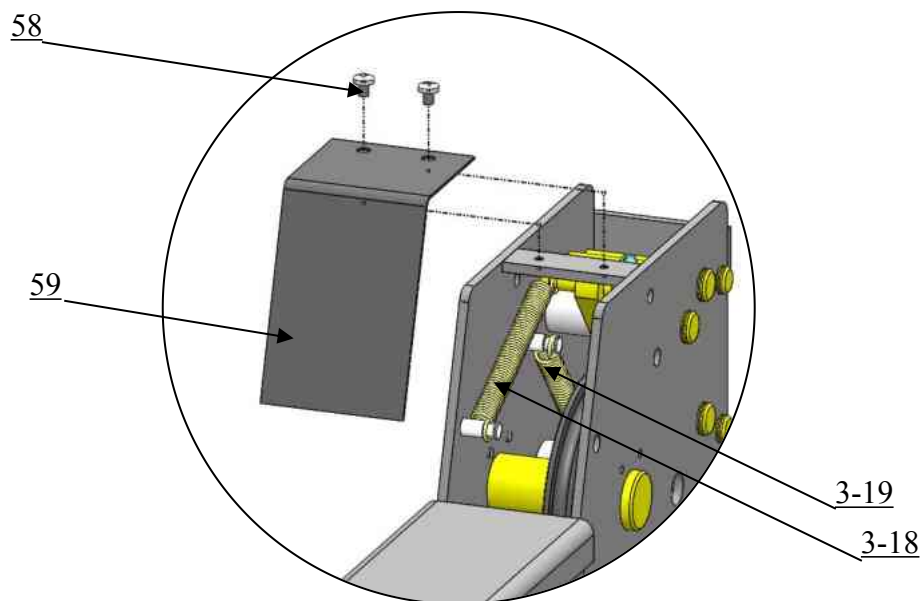

Fig.31
4. Install tension spring and cross beam protective cover. **(See Fig. 31).**